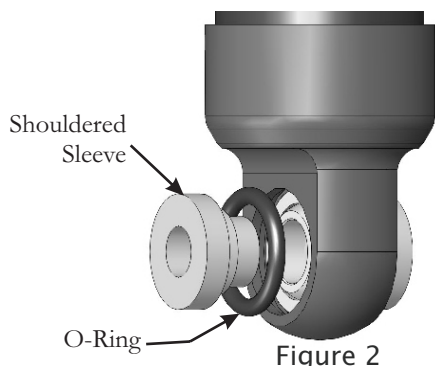

Figure 2
3. Shouldered sleeves with O-rings should already be installed in the lower eye of your new 435 shock. If not, insert sleeves with O-rings into the shock eye (figure 2).